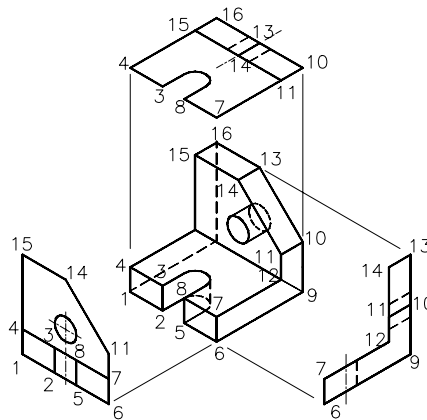

Figure 22-18 Project the image onto the parallel planes
4. Look at the object along the negative Y axis, and project the image on the imaginary XZ parallel plane, (Figure 22-18).